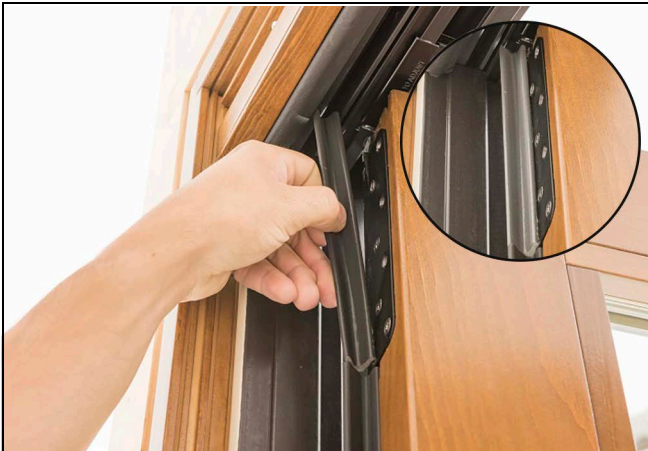

Figure 84
12. Apply the adhesive backed hinge weather strip on any hinges next to a jamb. See Figure 84.